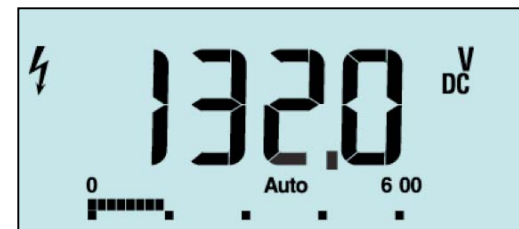

Figure 2. Checking the dc bus voltage level is less than nominal revealing a potential problem
- The drive dc bus voltage in figure 2 shows around 20 % under the nominal value of 160 V